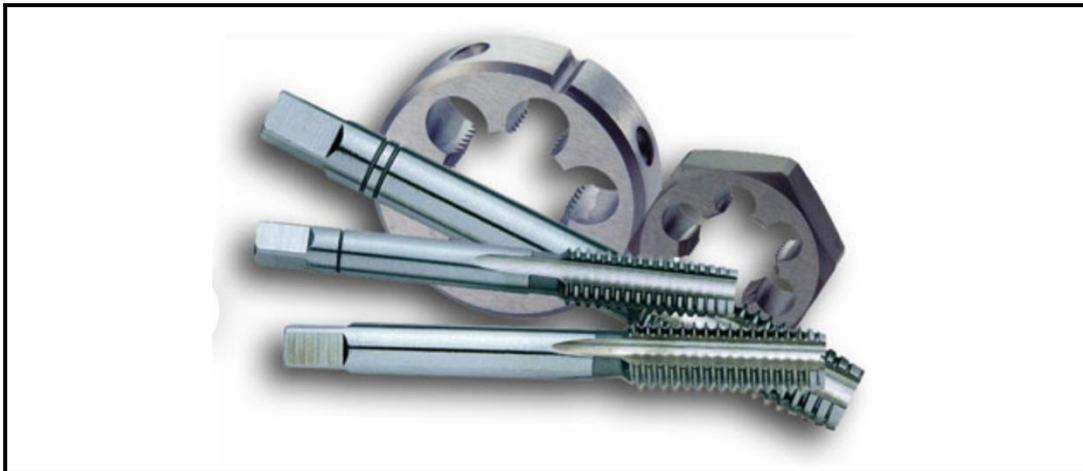

FIGURE 1.19
- 1.19 What is the function of the hand tools shown in FIGURE 1.19 below?